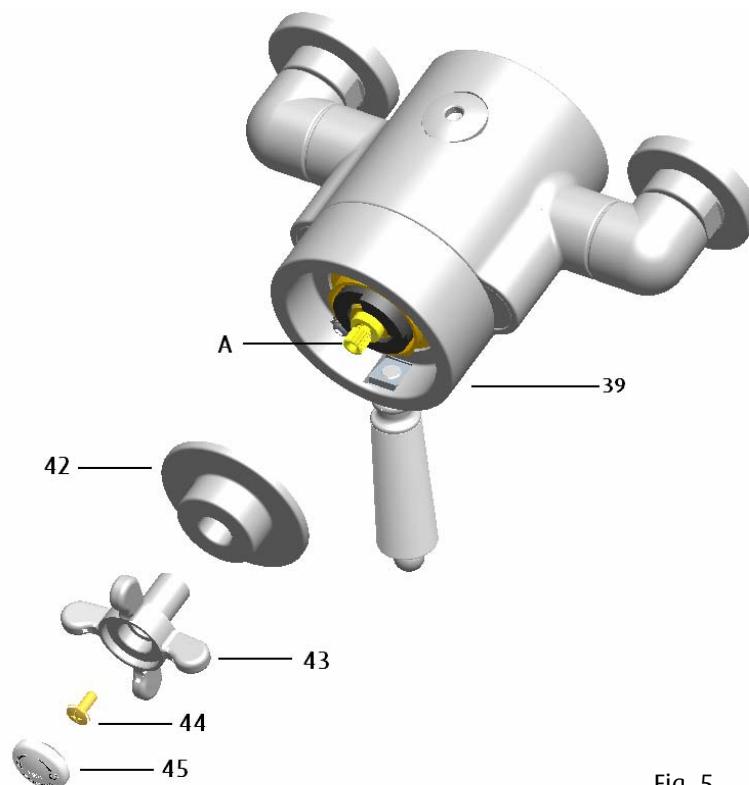

Fig. 5
5.4 See Fig. 5 below, remove the temperature control handle and shroud (43 & 42) by removing the indice (45), remove the screw (44) and pulling the handle and shroud (43 & 42) off the spindle (A).
It is important to note that the flow control handle (39 Fig. 5) turns through approximately 170 degrees to achieve full and maximum flow anticlockwise on, clockwise off .
The small cross handle (43 Fig. 5) controls the temperature. This control stays stationary when the flow control handle is turned.